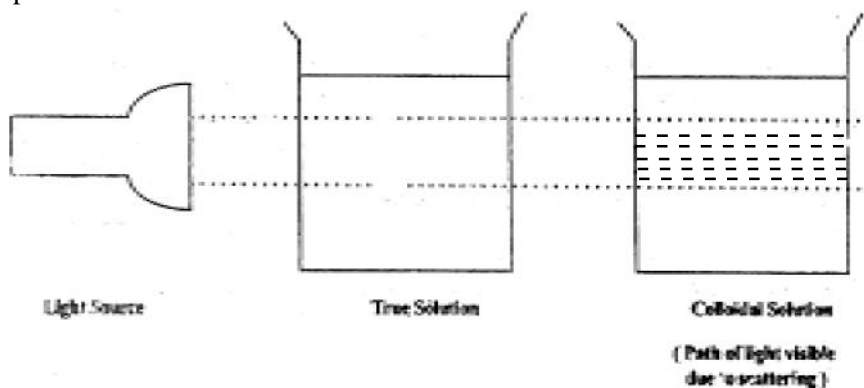

Fig.10.6 : The Tyndall Effect
- Tyndall Effect :** Tyndall in 1869, observed that if a strong beam of light is passed through a colloidal solution then the path of light is illuminated. This phenomenon is called Tyndall Effect. This phenomenon is due to scattering of light by colloidal particles (fig.10.6). The same effect is noticed when a beam of light enters a dark room through a slit and becomes visible. This happens due to the scattering of light by particles of dust in the air.